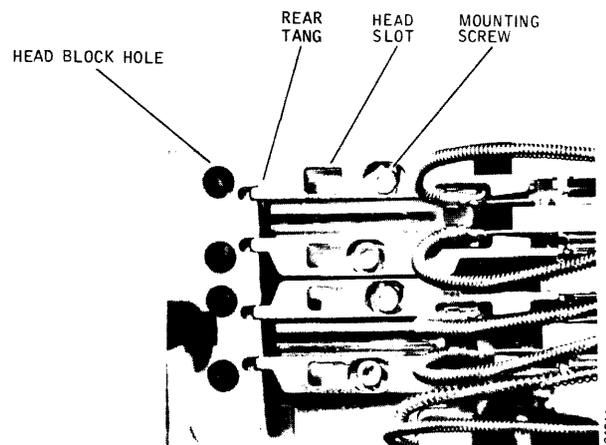

Figure 3-2. Head Positioning and Mounting Components
2. Insert the head assembly with the camming tool installed in the correct position by setting the arm on the proper cam and then sliding the head to the rear so that both front and rear tangs on the head mount mate with the proper T-block slots on the carriage assembly. See Figure 3-2.
4. Install the two-prong prepositioning tool in the hole in the T-block and the slot in the head mount (See Figure 3-2), tighten the head mounting screw with the head torque wrench to 88 inch-ounces, and remove the tool.